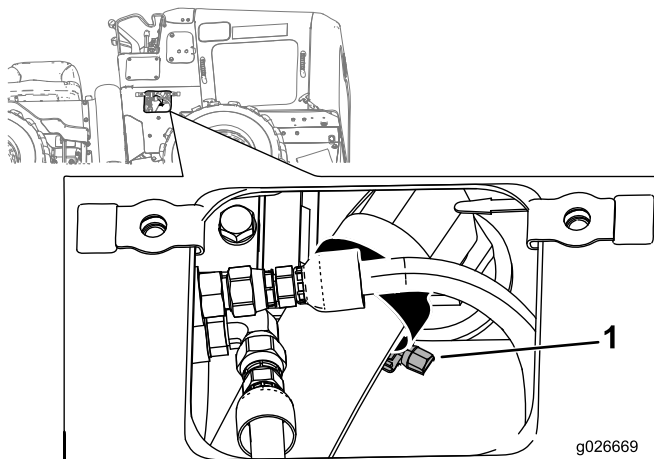

Figure 45
5. Remove the lower right side cover plate and loosen the hose clamp holding the suction hose to the hydraulic tank (Figure 45).